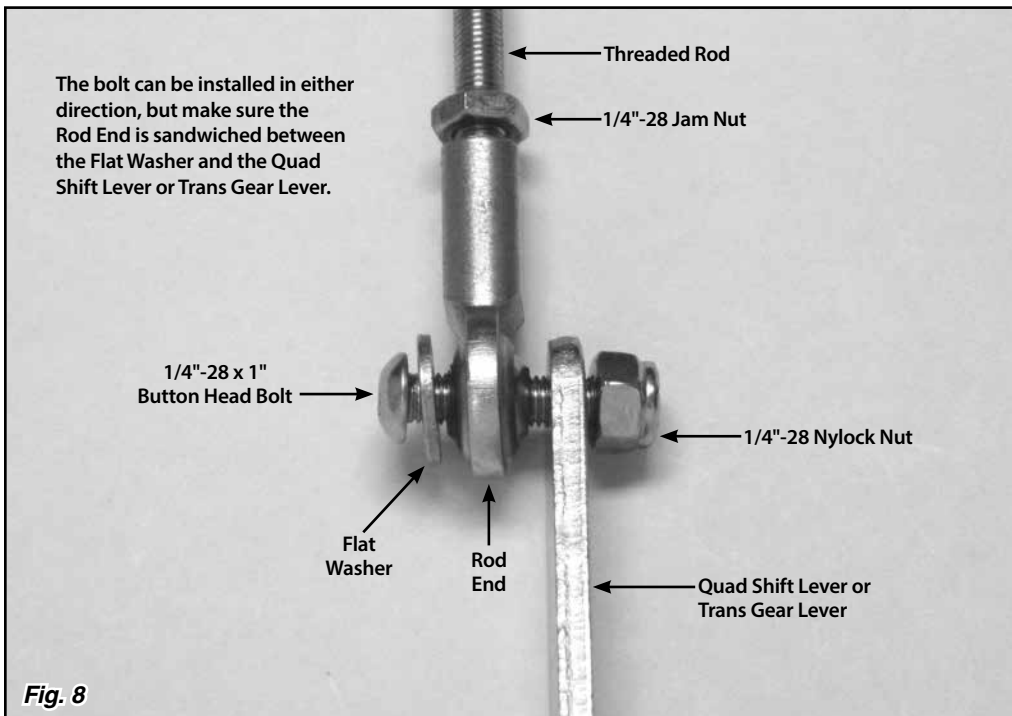
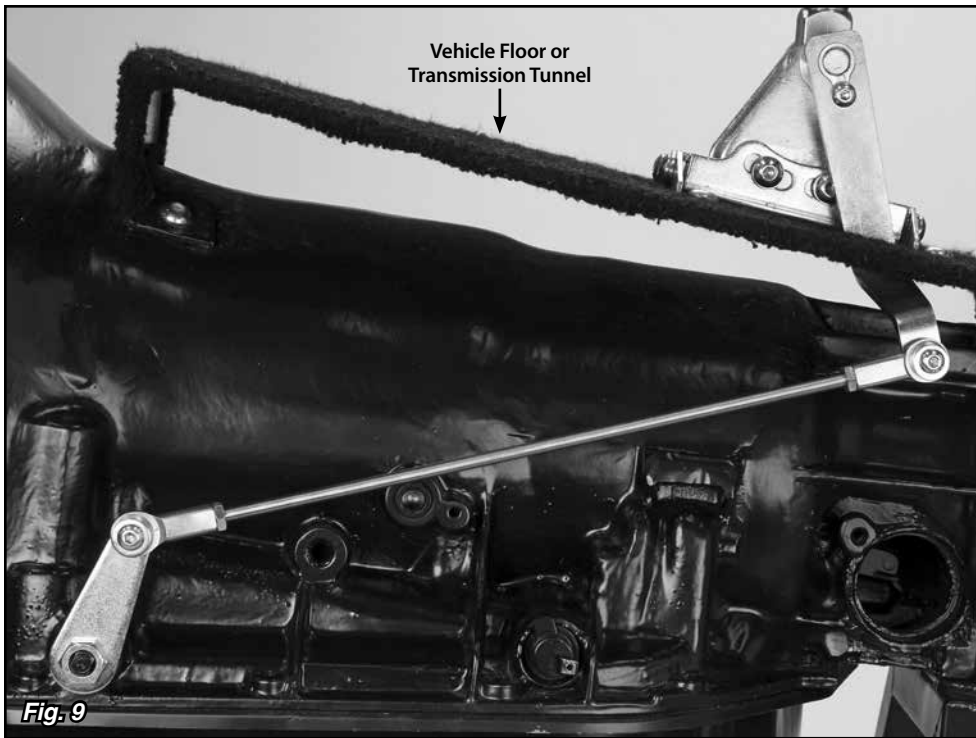

Fig. 8
Fig. 9
Step 12: Make sure that two 1/4"-28 jam nuts are installed on the threaded rod, one at each end. Install a rod end onto each end of the threaded rod. Position the rod ends on the inside or outside of the quad shift lever and trans gear lever so that the threaded rod is as straight as possible. Attach the threaded rod assembly to the quad shift lever and trans gear lever using the 1/4"-28 x 1" button head bolts, flat washers, and nylock nuts as shown in **Fig. 8**. The button head bolts can be installed from either direction, but make sure the rod ends are sandwiched between the flat washers and the quad shifter lever or trans gear lever. **Fig. 9**